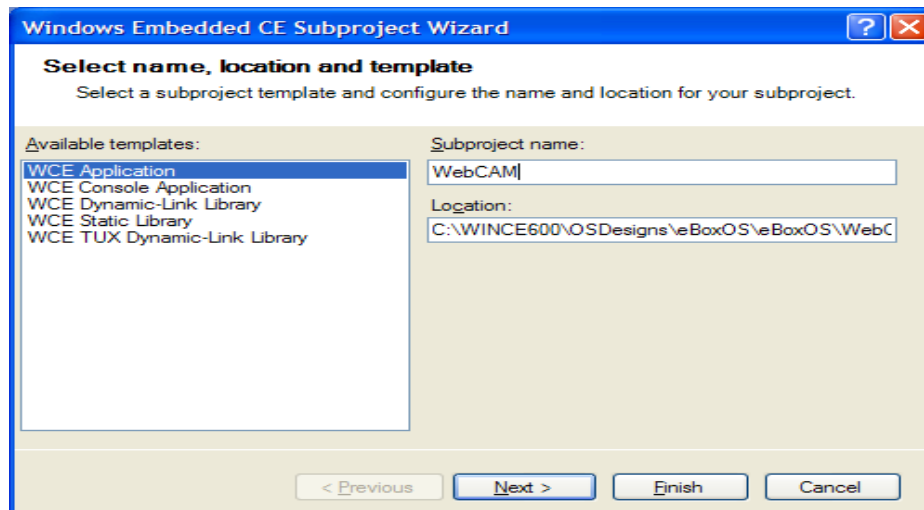

Figure 52. Subproject Wizard Window
2. Select Add New Subproject, then in the wizard window select WCE Application, and for Subproject name use WebCam as shown in figure 52.